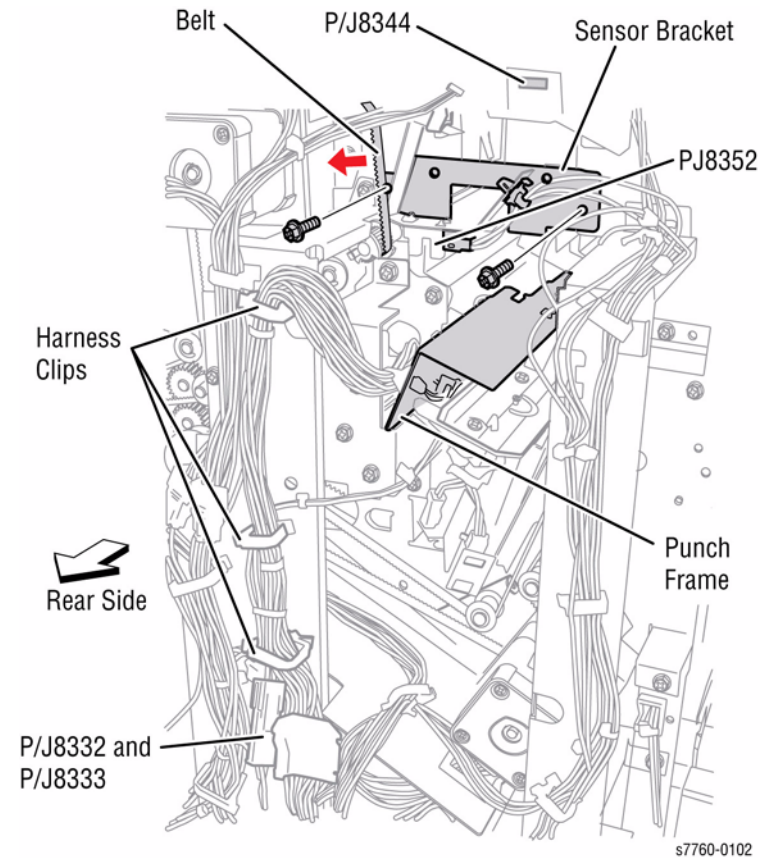

Figure 2 Removing the Punch Frame Assembly (Rear Side of Finisher)
4. Removing the Punch Frame Assembly (Figure 2).
- c. Disconnect the wiring harnesses P/J8332, P/J8333 (refer to Section 7, Finisher Rear View Plug/Jack Locations - Figure 2), and J8344.